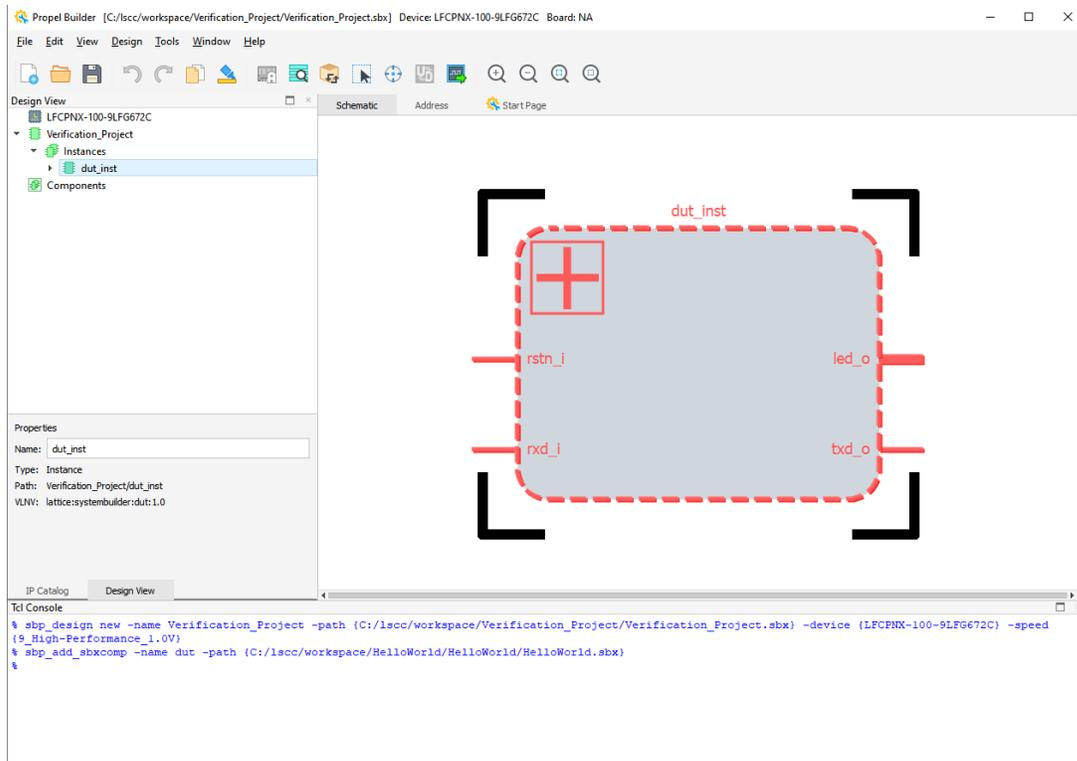

Figure 2.115. Verification Project
- Click **Finish**. The dut\_inst of SoC project is shown in the Schematic view (Figure 2.115).